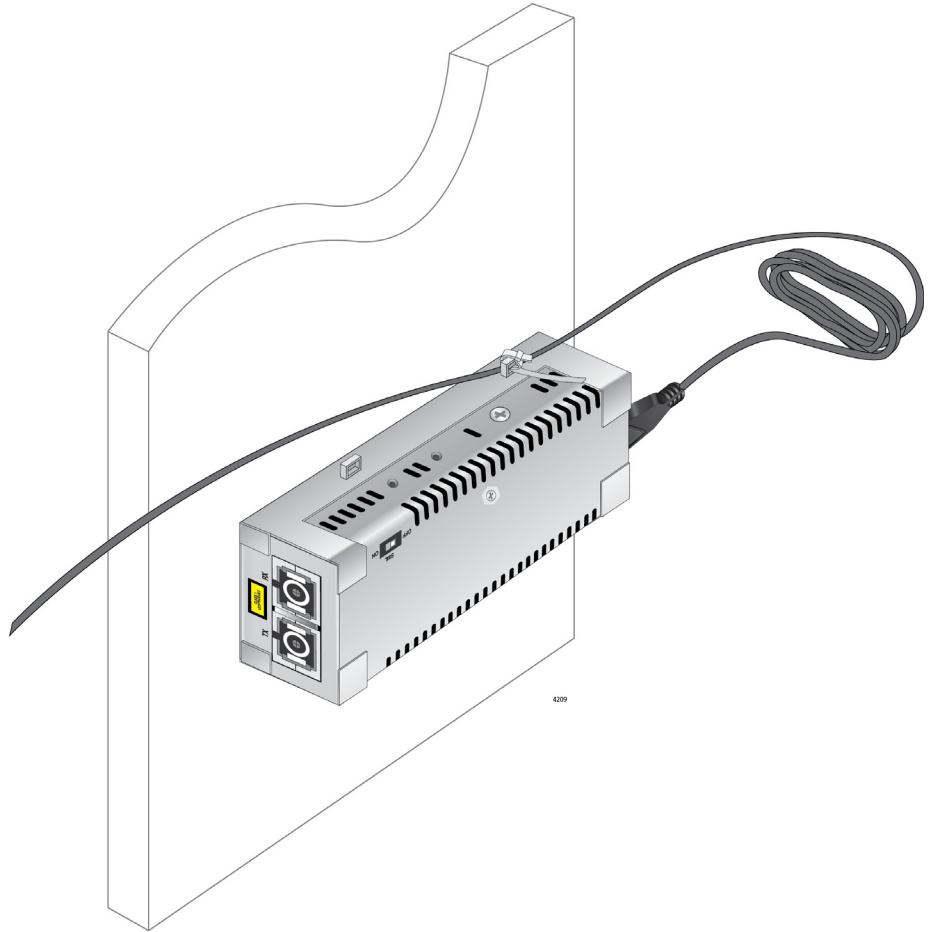

Figure 22. Securing the USB Cable Tie
2. Secure the USB cable to the media converter using one of the cable ties (included with the separately purchased wall-mount bracket) as described below and shown in Figure 22 on page 45: